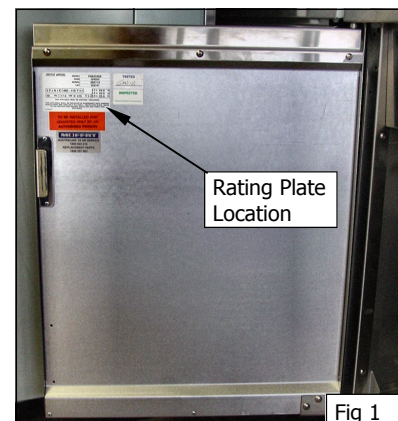

Fig 1
2. This manual must be kept by the owner for future reference and a record of ***Date of Purchase, Date of Installation*** and ***Serial Number of Unit*** recorded and kept with this manual. **(These details can be found on the Rating Plate attached to the inner R/H side of the front access door panel. Refer to Figure 1 in the 'Installation' section).**